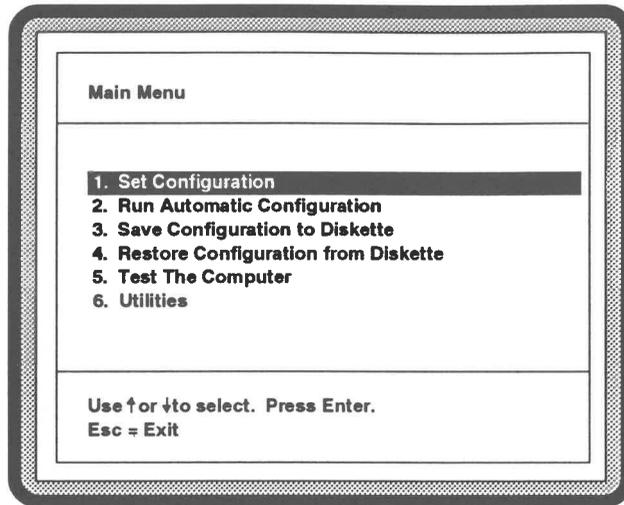

Figure 4-1 Selecting the Set Configuration Program
3. From the **Main Menu**, leave the default selection **Set Configuration** intact and press Enter (see Figure 4-1).